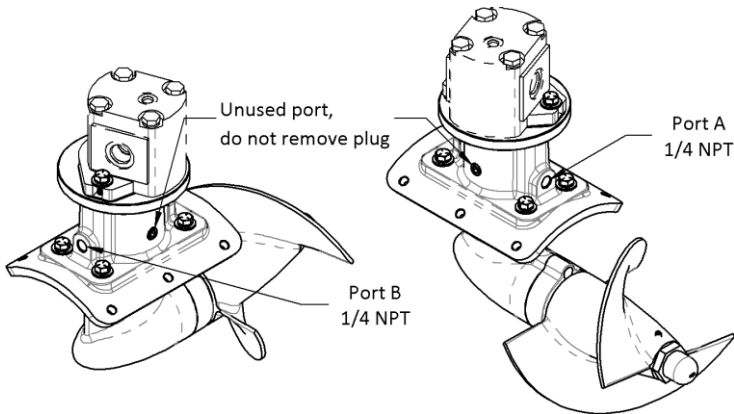

Figure 10 - Lubricant Ports
2. Remove the 1/4" NPT plug in the port opposite of the one which the header tank is connected to (it will be either port A or B in Figure 10 on page 17).
2. In the saddle opposite to the port the pump is connected to (either port A or B in Figure 10 on page 17) there is a plug that should be removed. Connect that port to some sort of receptacle that will allow you to collect and examine the oil.